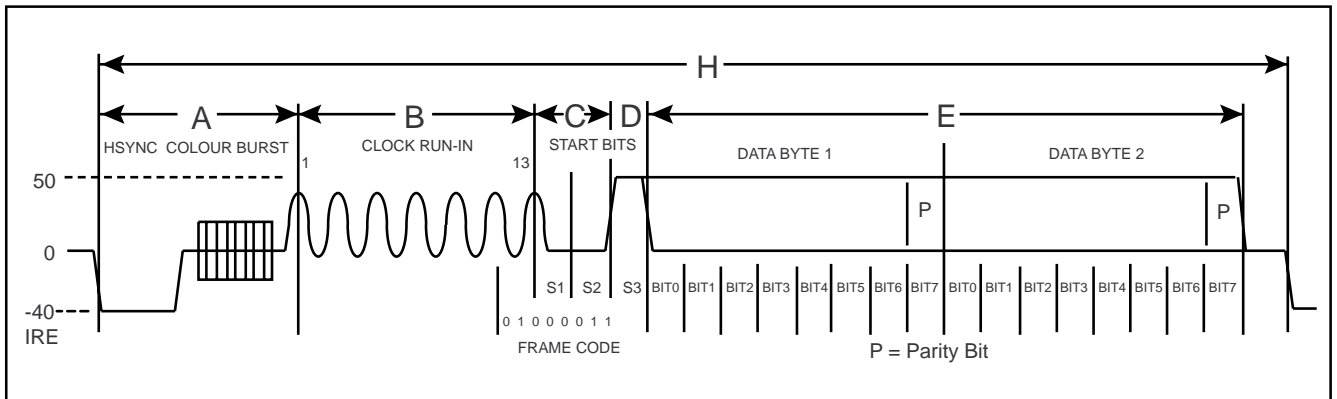

Fig.8 Closed Capation format
Two bytes of data are coded on the line 21 of each field, see figure 8. In the NTSC Closed Caption service, the default state is to code on line 21 of field one only. An additional service can also be provided using line 21 (284) of the second field. The data is coded as NRZ with odd parity, after a clock run-in and framing code. The clock run-in frequency = 0.5034965MHz which is related to the nominal line period,  $D = H / 32$ .